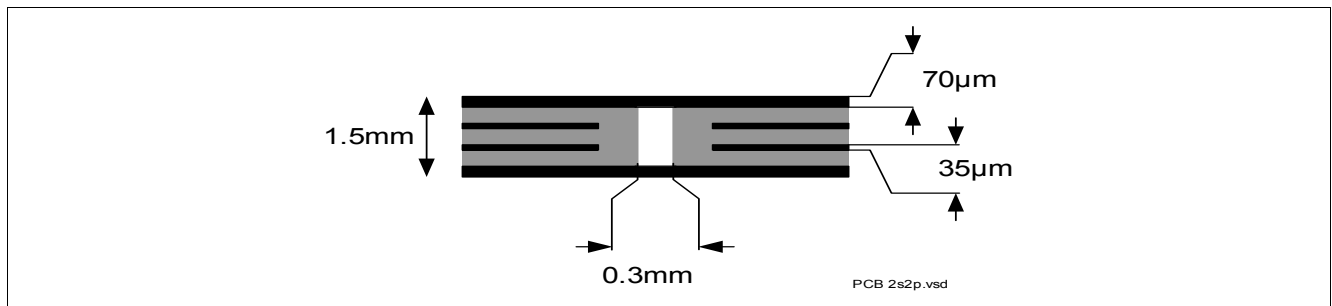
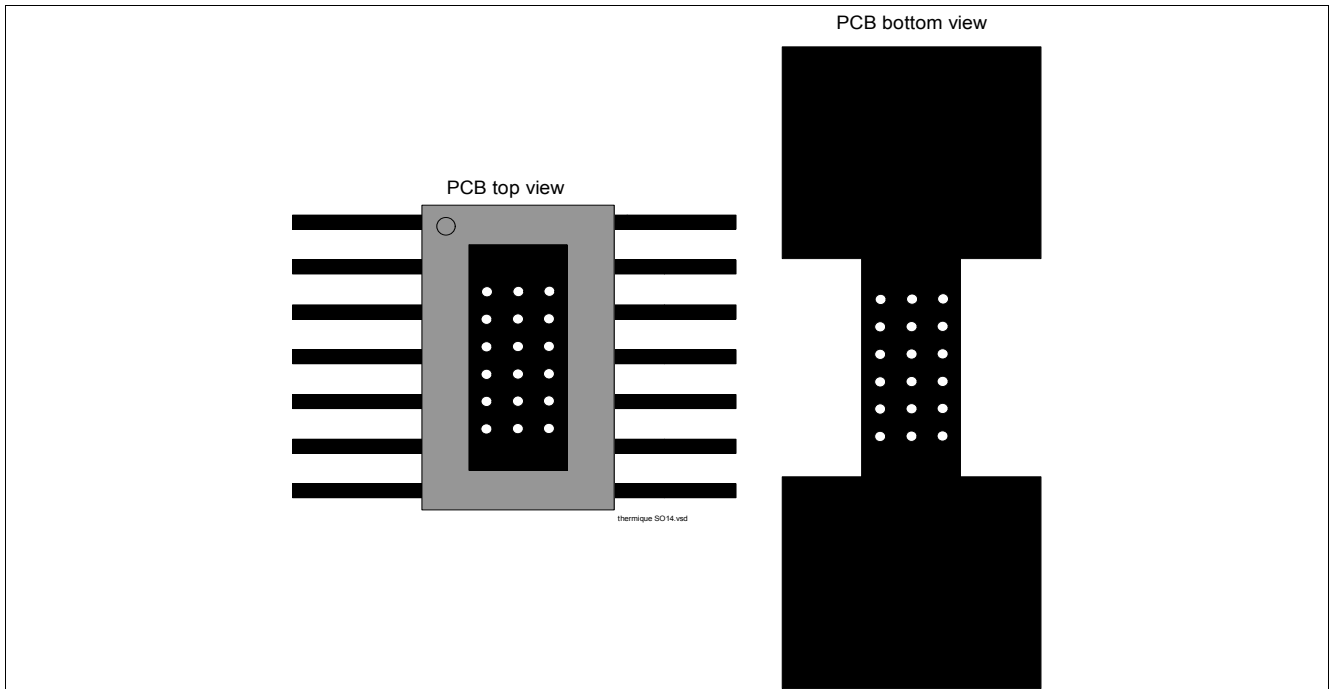

Figure 4 2s2p PCB Cross Section
Figure 5 PC Board Top and Bottom View for Thermal Simulation with 600 mm² Cooling Area
- 2) Specified R_{thja} value is according to JEDEC JESD51-2,-5,-7 at natural convection on FR4 2s2p board; The product (chip + package) was simulated on a 76.4 x 114.3 x 1.5 mm board with 2 inner copper layers (2 x 70µm Cu, 2 x 35 µm Cu). Where applicable, a thermal via array under the exposed pad contacts the first inner copper layer. Please refer to Figure 4 and Figure 5.